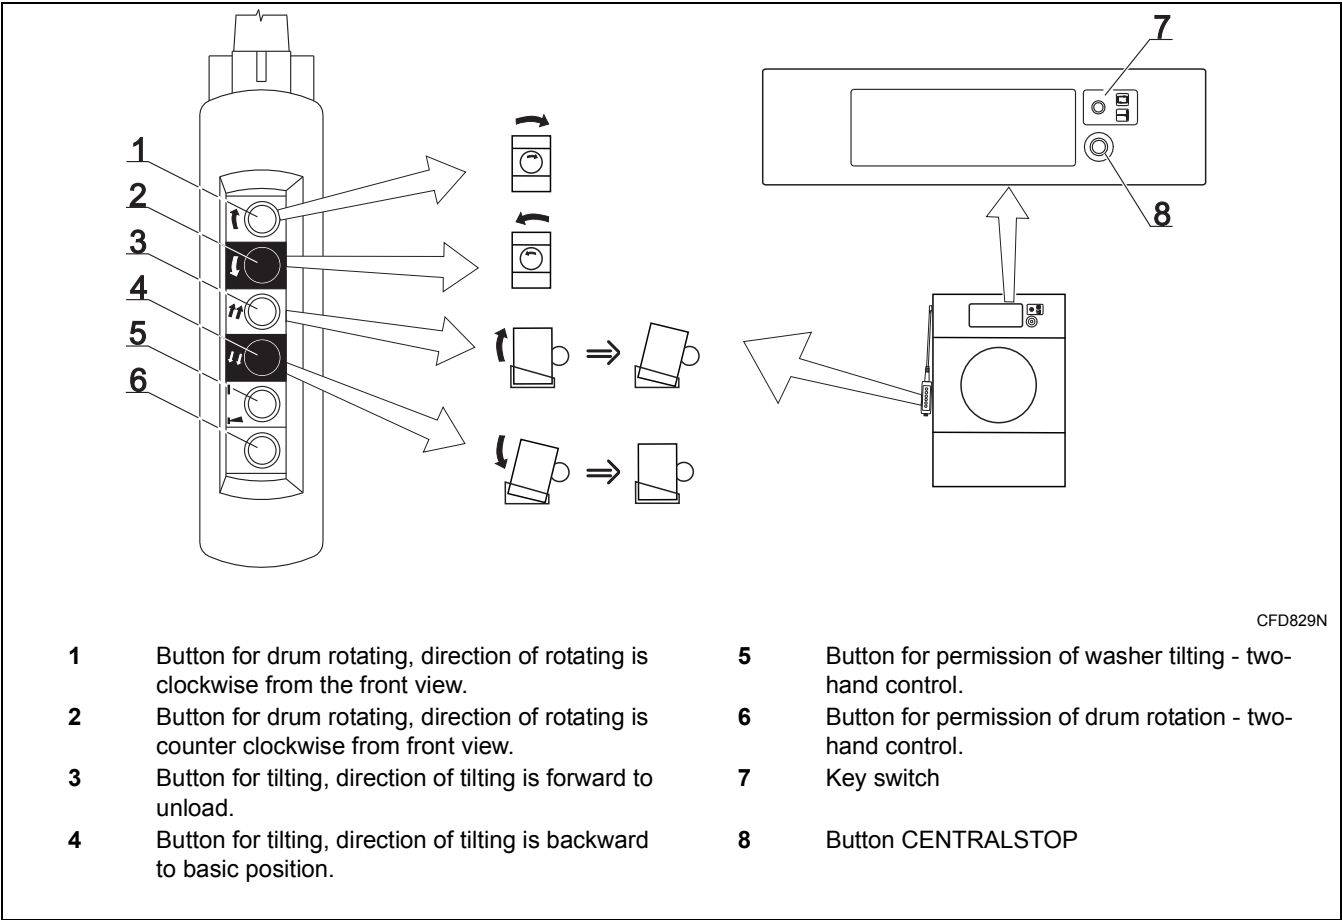

Figure 13
You can tilt the machine forward to any position. The maximum tilt is 15° from the starting position. It is not necessary to tilt the machine to the maximum tilt position. On the controller, press and hold the button for tilting the machine (*Figure 13*, pos. 3). After 10 seconds the machine starts tilting. Tilting driven by the electric motor can respond without a time delay. Tilting can be interrupted if you release the pressed button. When the maximum tilt position is reached, tilting stops.
the required direction (*Figure 13*, pos 1 or 2) and the green button (6) on the controller at the same time. This will make it easier to unload the linen.
After unloading the linen, tilt the machine back to the starting position. Press and hold the tilting button (*Figure 13*, pos 4). If you release the pressed button, you will interrupt the machine tilting.